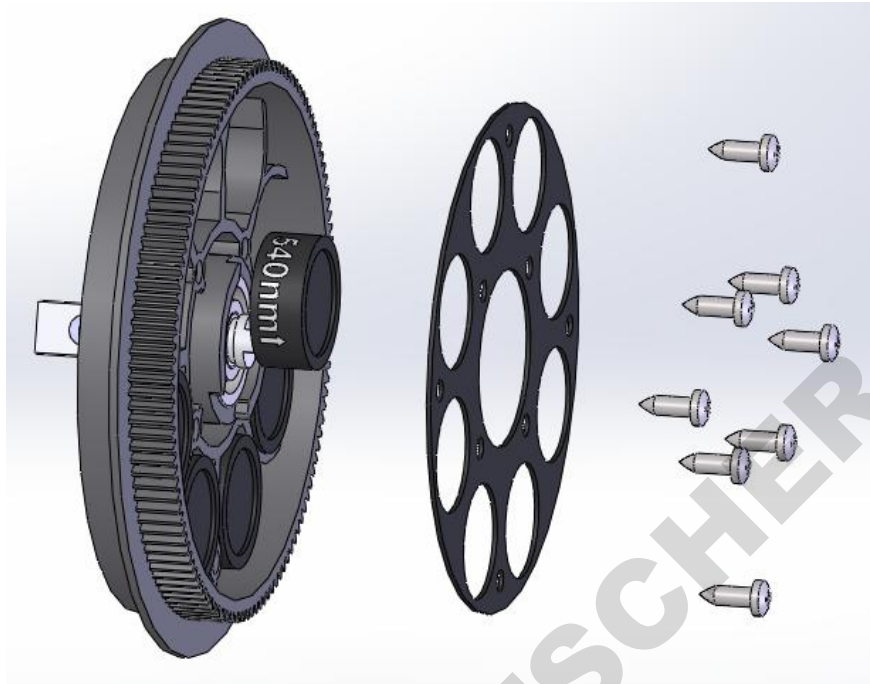

fig 58
- b. Take off the fixing plate on wheel and put the optical filters onto the wheel and fix filter by fixing plate. Arrows on filters should be same as light incident direction(Fig 58).